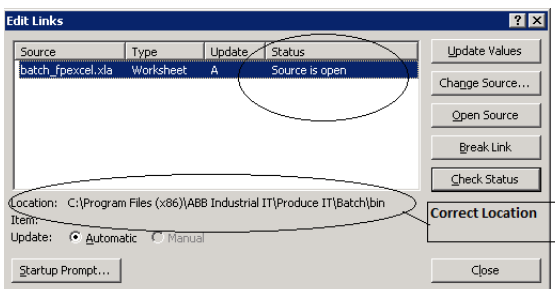

Figure 4. Correct Path Selected
- Click **Check Status** to check the status of the file link. Figure 4 shows the updated view of the Edit Links status displaying the **Source is open**.